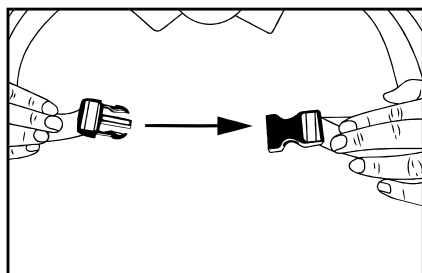
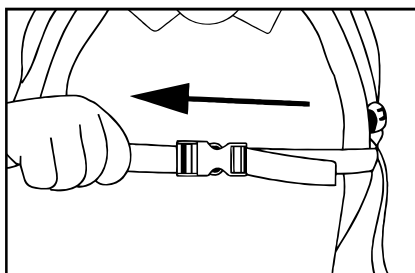

FIGURE 10
FIGURE 11
6.1.1 Once the machine is comfortable on your back, connect the top horizontal chest buckle **FIGURE 10** and then tighten by pulling on the end of the strap. **FIGURE 11.**